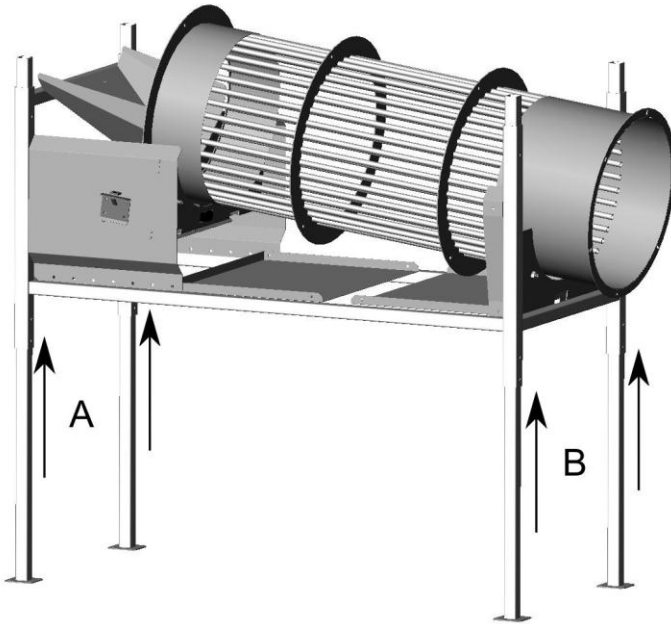

Fig. 1.
- The angle of the debris drum can be changed by altering the height difference of the legs A and B (Fig. 1).